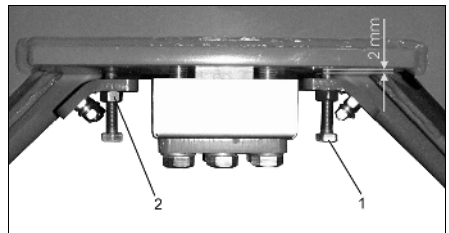

Fig. 58
Set the limiting bolts (Fig. 58/1) with a clearance of 2 mm according to illustration
- Slacken counter nut (Fig. 58/2).
- Set the limiting bolts (Fig. 58/1).
- Retighten counter nut (Fig. 58/2).